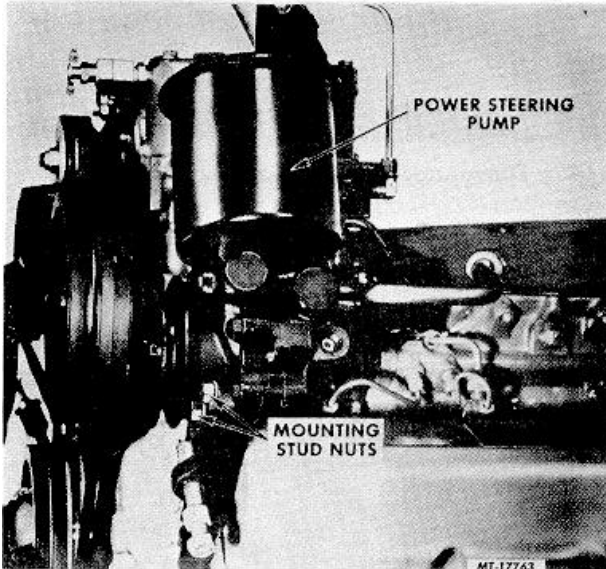

Fig. 17 Power Steering Pump Mounting Details
2. Loosen the power steering pump adjusting bolt locknut and mounting bracket capscrews. Push mounting bracket inward to remove power steering pump drive belt. Remove power steering pump mounting stud nuts and lockwashers and remove pump (Figure 17).